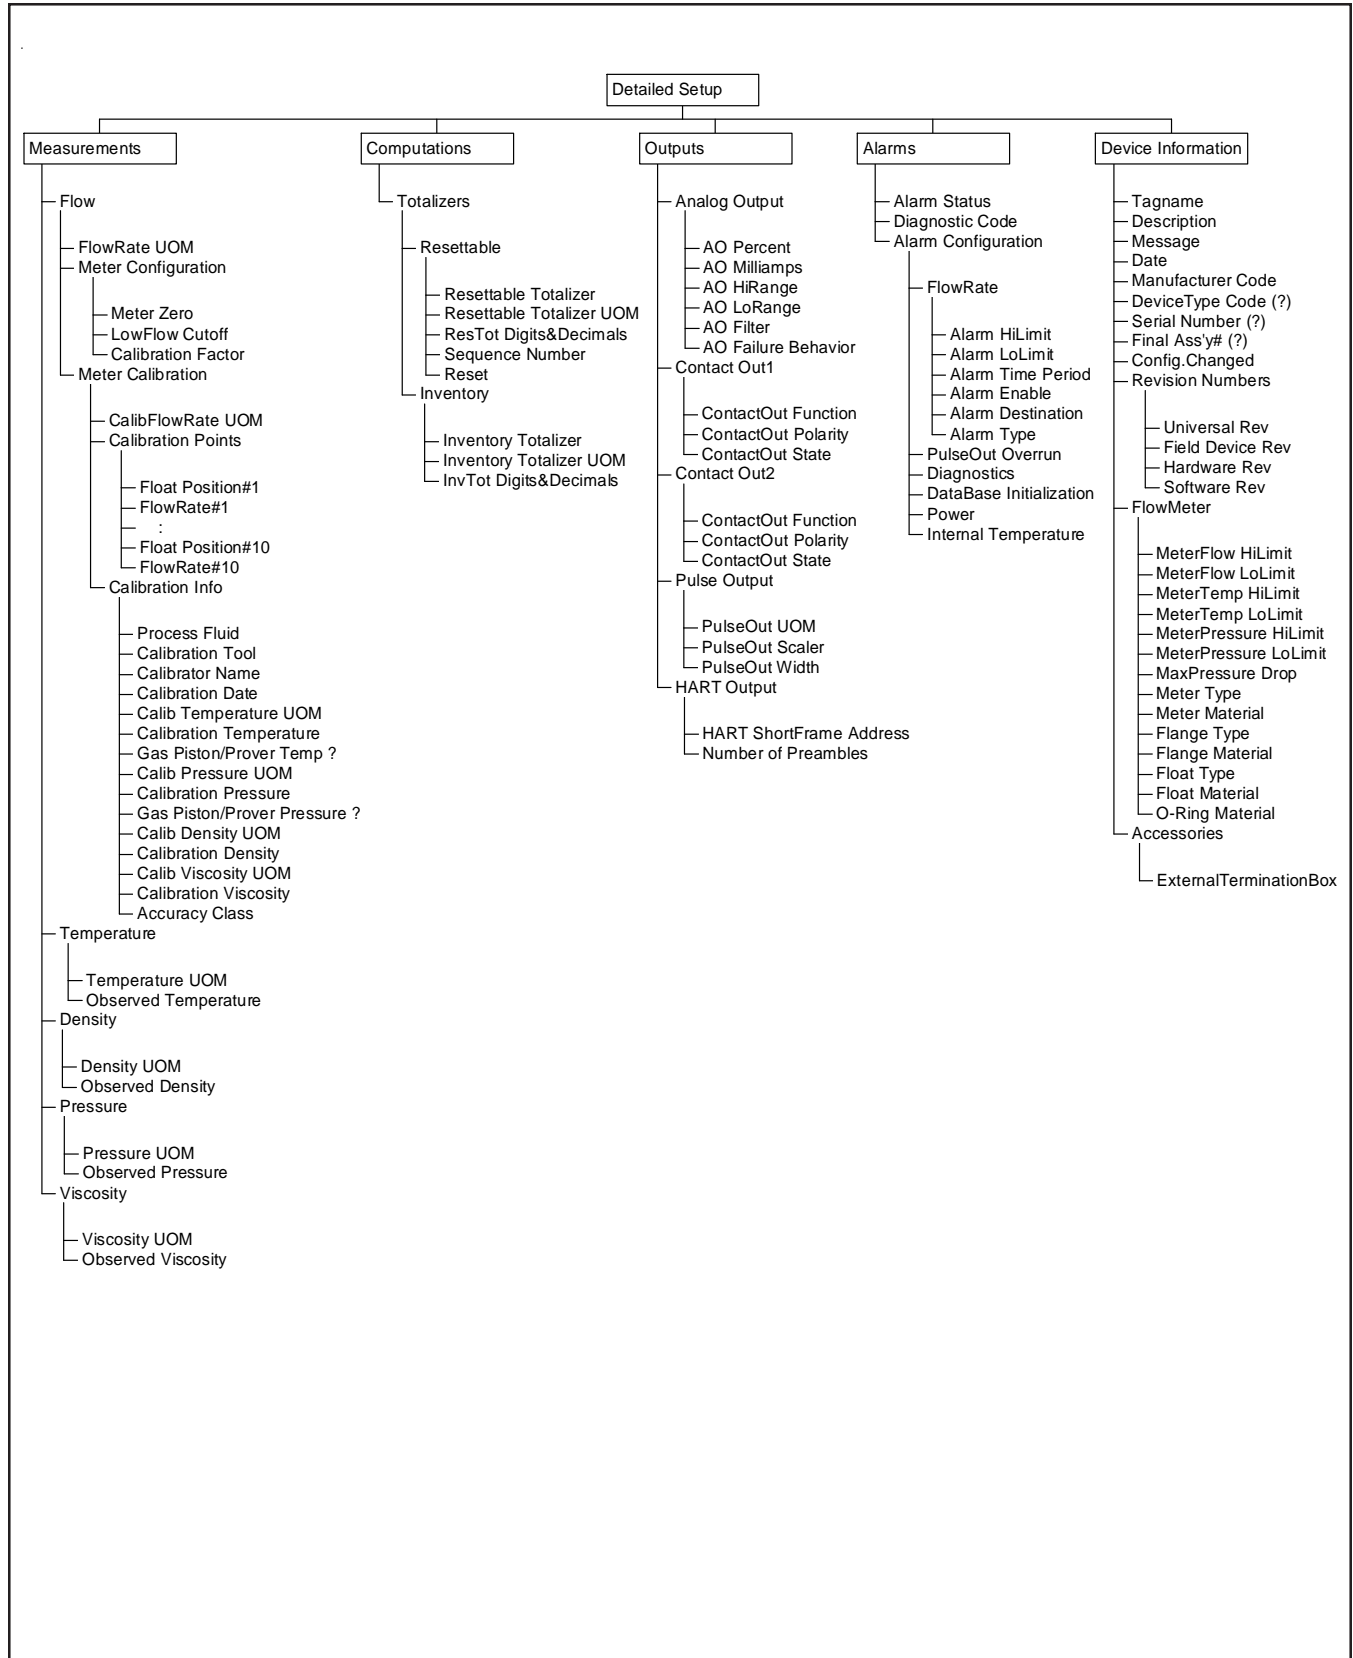

Figure 3-2 Models MT 3809 and MT 3819 SMM Electronics Device Description Tree (Detailed Setup)
7. Under actual flow conditions, verify that the transmitter output matches the mechanical pointer position. If a discrepancy is noted, the HART communications channel can be used to verify or adjust the transmitter settings. The Emerson Model 275 hand held communicator provides a simple means to accomplish this check anywhere in the loop. Refer to Figure 3-2 for connection instructions.
9. Under actual flow conditions, verify that the transmitter output matches the mechanical pointer position and that the alarms and pulse outputs are working properly. If a discrepancy is noted, the HART communications channel can be used to verify or adjust the transmitter settings. The Emerson Model 275 hand held communicator provides a simple means to accomplish this check anywhere in the loop. Refer to Figure 3-2 for connection instructions.
10. Under actual flow conditions, verify that the transmitter output matches the mechanical pointer position. If a discrepancy is noted with the transmitter, the HART communications channel can be used to verify or adjust the transmitter settings. The Emerson Model 275 hand-held communicator provides a simple means to accomplish this check anywhere in the loop. Refer to Figure 3-2 for connection instructions.